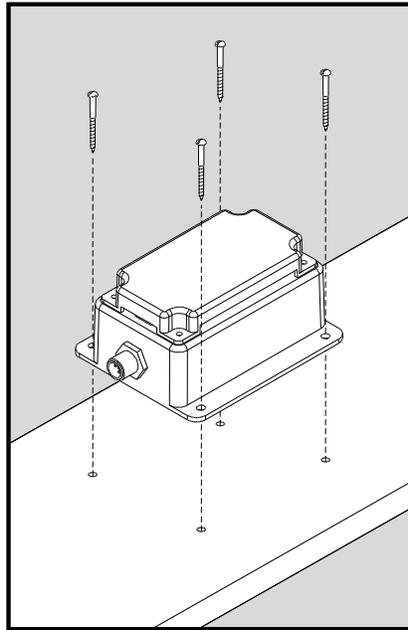

Figure 1 – Mounting the CLM100
Attach the CLM100 securely to the vessel using the included stainless steel mounting screws or other fasteners as shown in Figure 1 below. Do not use threadlocking compounds containing methacrylate ester, such as Loctite Red (271), as they will cause stress cracking of the plastic enclosure.